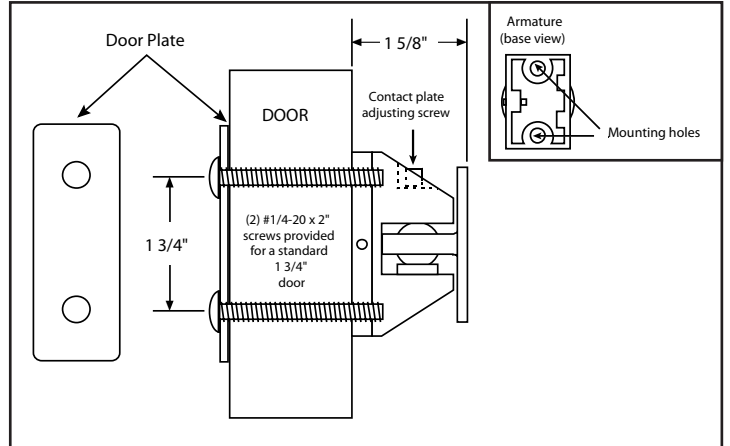

Figure 5. Thru-Bolt Mounting (Series 2804 shown)
- Using a 5/32" Allen wrench, turn the contact plate adjusting screw (Figures 5 and 6) counterclockwise to loosen the contact plate.
- Thru-bolt mounting (Figure 5).** Center punch the two holes (at the points marked in step 3) and drill 5/16" diameter through the door. Distance between the center points should equal 1-3/4".
Secure the armature assembly, with the contact plate adjusting screw facing down, to the door as shown in Figure 5 or 6, using (2) 1/4-20 x 2" screws (supplied).